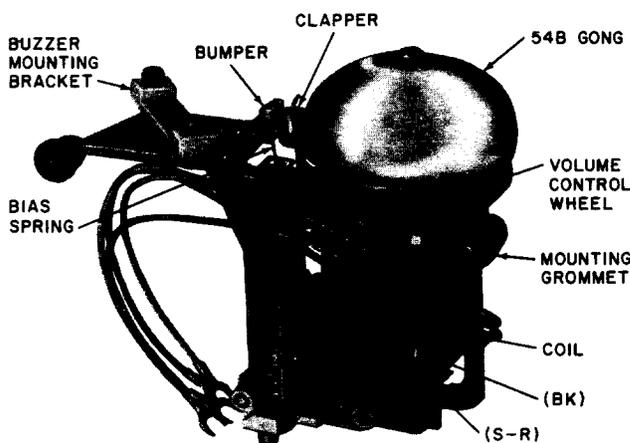

Fig. 1—H1A Ringer, Bottom View
2.01 The H1-type ringer is a single-coil, high-impedance ringer with a two position bias spring adjustment. It is equipped with a single 54B gong and a bracket to mount a KS-8109 type or KS-20419L1 buzzer. The component parts are shown in Fig. 1 and 2.
2.03 This ringer has a volume control wheel, adjustable in four steps. It can also be cut off by bending the stop tab and moving the volume control wheel to a fifth position (see Fig. 1 and 2).